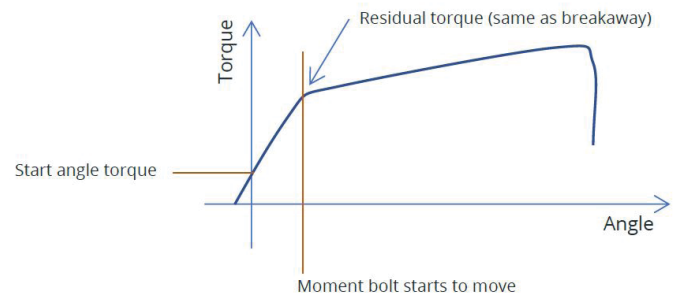
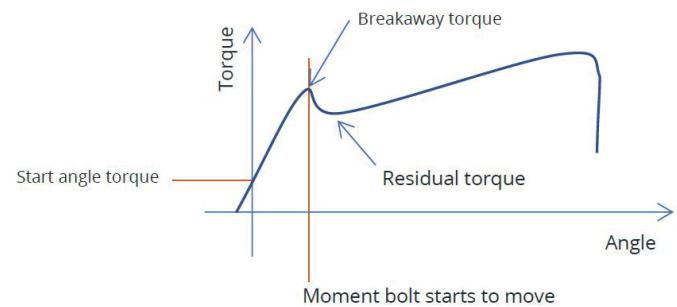

Figure 29 – Case 1, Clean Breakaway
Figure 30 – Case 2, Breakaway with Peak
When a screw is rotated further, the *torque x angle* graph can assume two forms. In the first case, there's a clean transition from the moment the bolt is static to when it starts to move. This transition is marked by a change of gradient as pictured in Figure 29 – Case 1, Clean Breakaway. In this case, the breakaway torque and the residual torque are the same.
not considered as the residual torque. The residual torque is taken as the lower value that follows the breakaway as pictured in Figure 30 – Case 2, Breakaway with Peak.
1. **Residual torque:** The wrench will always collect the residual torque as shown in Figure 29 and Figure 30, ignoring the breakaway peak if present.
2. **Breakaway torque:** The wrench will always collect the breakaway torque as shown in Figure 29 and Figure 30.